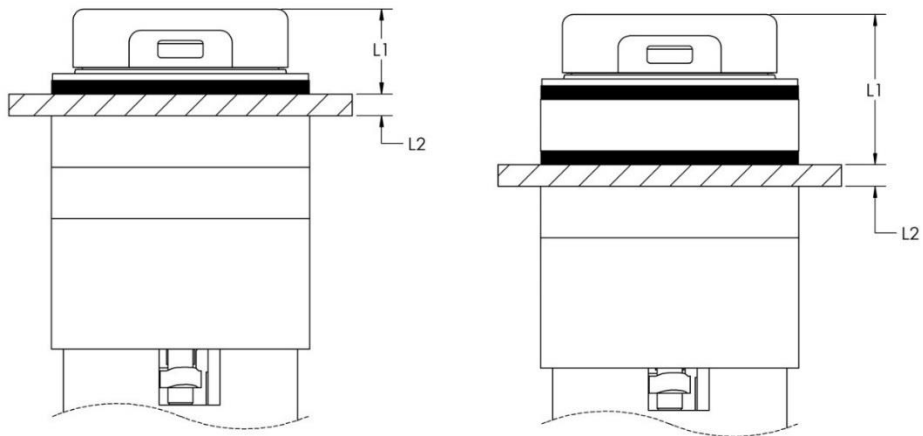
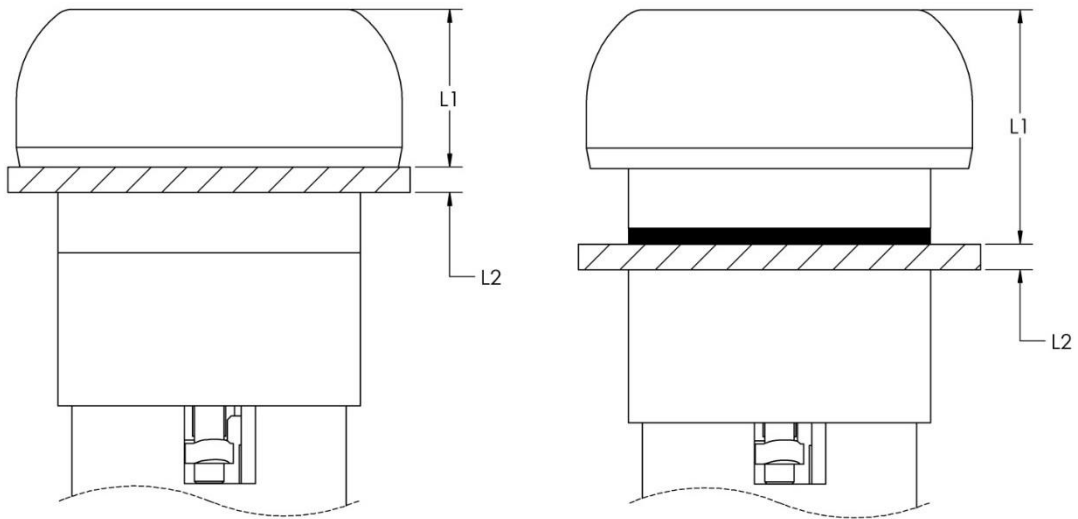

Figure 25: Hardware (drip-proof, types II and V)
Figure 26: Hardware (splash-proof/watertight, types III and VI)
*See Figure 25 and Figure 26 for flushed and extended mounts details.